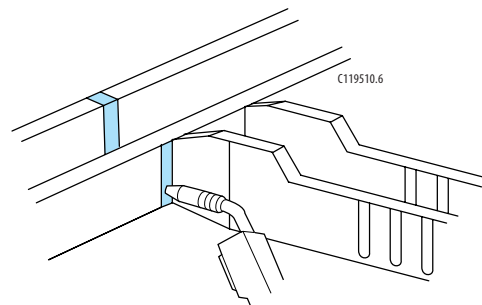

Figure 10-6:
6. Check the position of the service rear rail section using three-dimensional measuring equipment and tack weld in three locations along all three sides of the rail (figure 10-6). Stitch weld along the entire seam and replace factory welds as necessary.